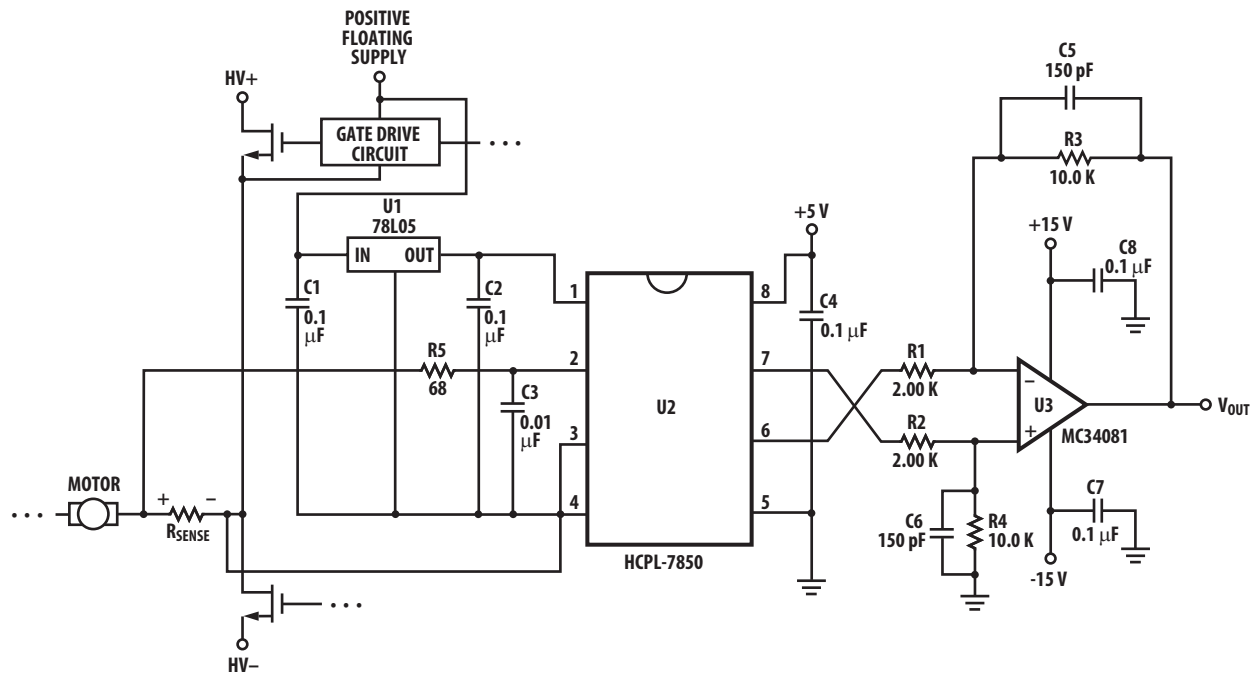

Figure 24. Recommended Application Circuit.
8. CMR (also known as IMR or Isolation Mode Rejection) specifies the minimum rate of rise of a common mode signal applied across the isolation boundary at which small output perturbations begin to occur. These output perturbations can occur with both the rising and falling edges of the common mode waveform and may be of either polarity. A CMR failure is defined as a perturbation exceeding 200 mV at the output of the recommended application circuit (Figure 24). See Applications section for more information on CMR.
The recommended application circuit is shown in Figure 24. A floating power supply (which in many applications could be the same supply that is used to drive the high-side power transistor) is regulated to 5 V using a simple three-terminal voltage regulator (U1). The voltage from the current sensing resistor, or shunt (R_{sense}), is applied to the input of the HCPL-7850 through an RC anti-aliasing filter ($R5$, $C3$). And finally, the differential output of the isolation amplifier is converted to a ground-referenced single-ended output voltage with a simple differential amplifier circuit (U3 and associated components). Although the application circuit is relatively simple, a few recommendations should be followed to ensure optimal performance.
As shown in Figure 24, a 0.1 μF bypass capacitor ($C2$, $C4$) should be located as close as possible to the input and output power supply pins of the HCPL-7850. The bypass capacitors are required because of the high-speed digital nature of the signals inside the isolation amplifier. A 0.01 μF bypass capacitor ($C3$) is also recommended at the input pin(s) due to the switched-capacitor nature of the input circuit. The input bypass capacitor should be at least 1000 pF to maintain gain accuracy of the isolation amplifier.
The recommended method for connecting the isolation amplifier to the shunt resistor is shown in Figure 24. Pin 2 (VIN+) is connected to the positive terminal of the shunt resistor, while pin 3 (VIN-) is shorted to pin 4 (GND1), with the power-supply return path functioning as the sense line to the negative terminal of the current shunt. This allows a single pair of wires or PC board traces to connect the isolation amplifier circuit to the shunt resistor. In some applications, however, supply currents flowing through the power-supply return path may cause offset or noise problems. In this case, better performance may be obtained by connecting pin 3 to the negative terminal of the shunt resistor separate from the power supply
The recommended application circuit (Figure 24) includes a post-amplifier circuit that serves three functions: to reference the output signal to the desired level (usually ground), to amplify the signal to appropriate levels, and to help filter output noise. The particular op-amp used in the post-amp is not critical; however, it should have low enough offset and high enough bandwidth and slew rate so that it does not adversely affect circuit performance. The offset of the op-amp should be low relative to the output offset of the HCPL-7850, or less than about 5 mV.
To maintain overall circuit bandwidth, the post-amplifier circuit should have a bandwidth at least twice the minimum bandwidth of the isolation amplifier, or about 200 kHz. To obtain a bandwidth of 200 kHz with a gain of 5, the op-amp should have a gain-bandwidth greater than 1 MHz. The post-amplifier circuit includes a pair of capacitors (C5 and C6) that form a single-pole low-pass filter. These capacitors allow the bandwidth of the post-amp to be adjusted independently of the gain and are useful for reducing the output noise from the isolation amplifier (doubling the capacitor values halves the circuit bandwidth). The component values shown in Figure 24 form a differential amplifier with a gain of 5 and a cutoff frequency of approximately 100 kHz, and were chosen as a compromise between low noise and fast response times. The overall recommended application circuit has a bandwidth of 66 kHz, a rise time of 5.2 μ s and a delay to 90% of 8.5 μ s.